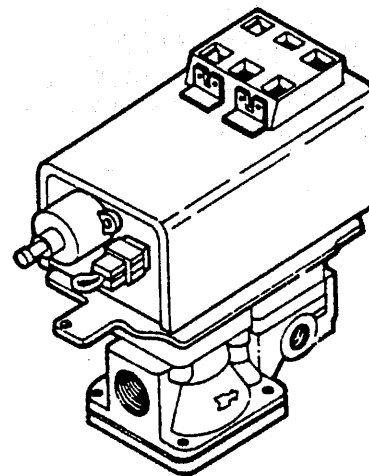

FIGURE 1
4. Remove and discard the screws that held the ignition module (control part) onto the mounting plate. Discard the old ignition module. See Figure 1.